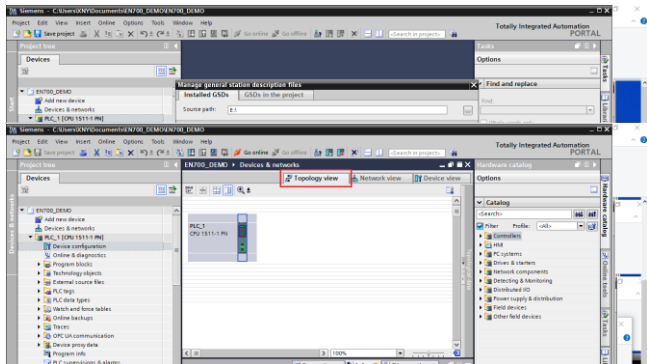

Figure 4-10
(4) Switch to topology attempt, as shown in Figure 4-10